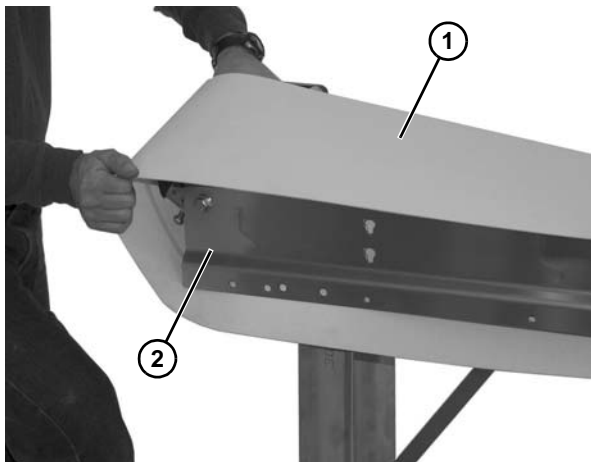

Figure 65
3. Install belt (Figure 65, item 1) on conveyor. Lift conveyor (Figure 65, item 2) slightly to avoid pinching belt on temporary support stands.